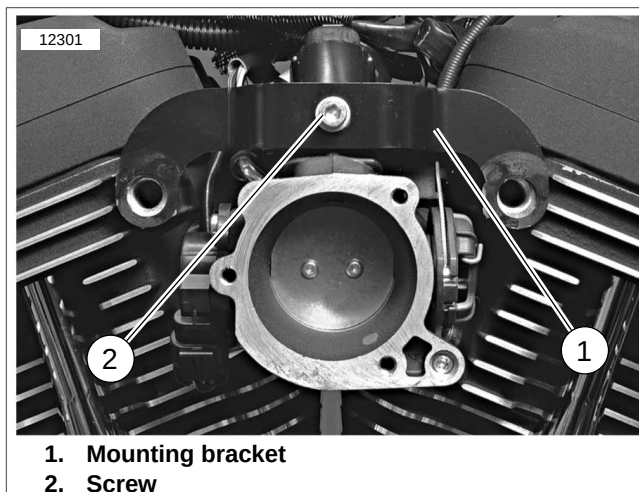

Figure 4-37. Induction Module Mounting Bracket
6. See Figure 4-37. Remove screw (2) and mounting bracket (1).
6. See Figure 4-37. Install mounting bracket (1) and screw (2). Tighten screw finger-tight.